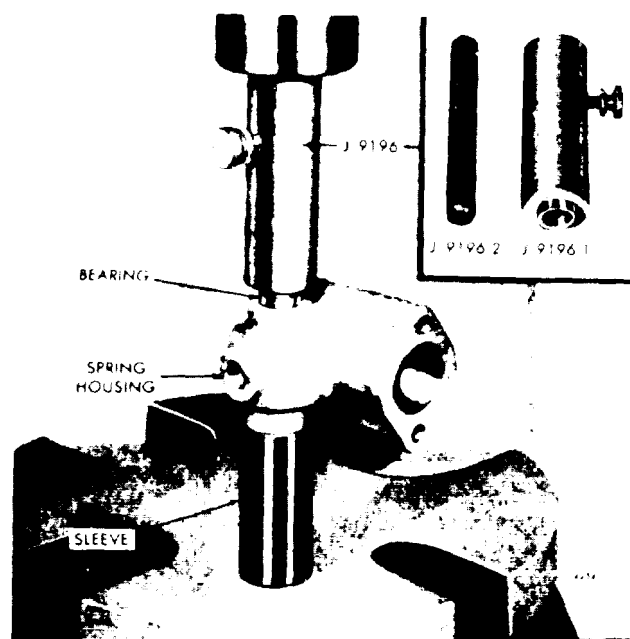

Figure 11C-73. Installing Speed Control Shaft Bearings
1. Refer to Figure 11C-72 on page 11C-43 and insert the small end of the spring plunger in the plunger guide. Insert the solid stop in the governor control housing.